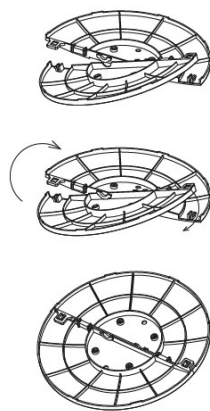

Fig. 1
- Hook the front base and the rear base, fixing them with two screws (Fig. 1)